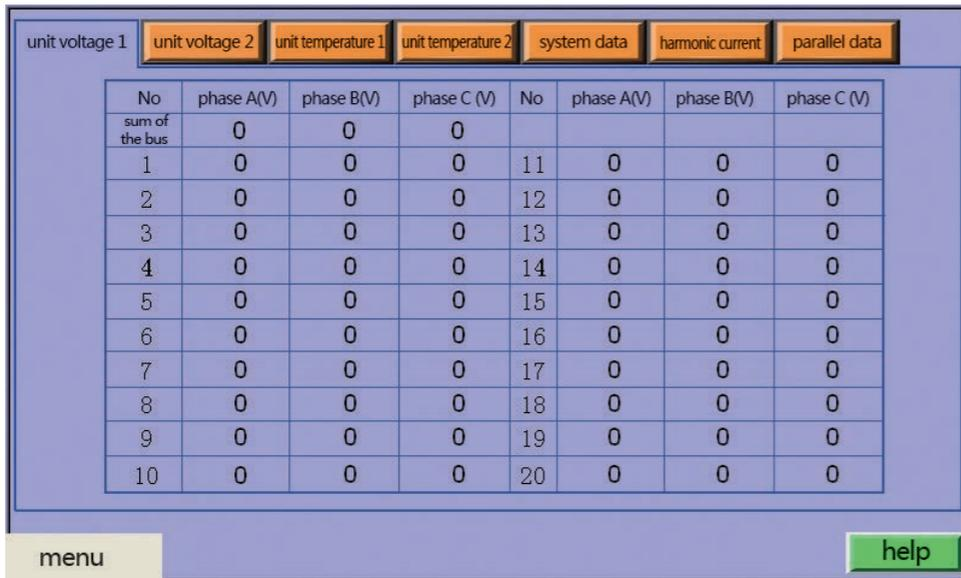
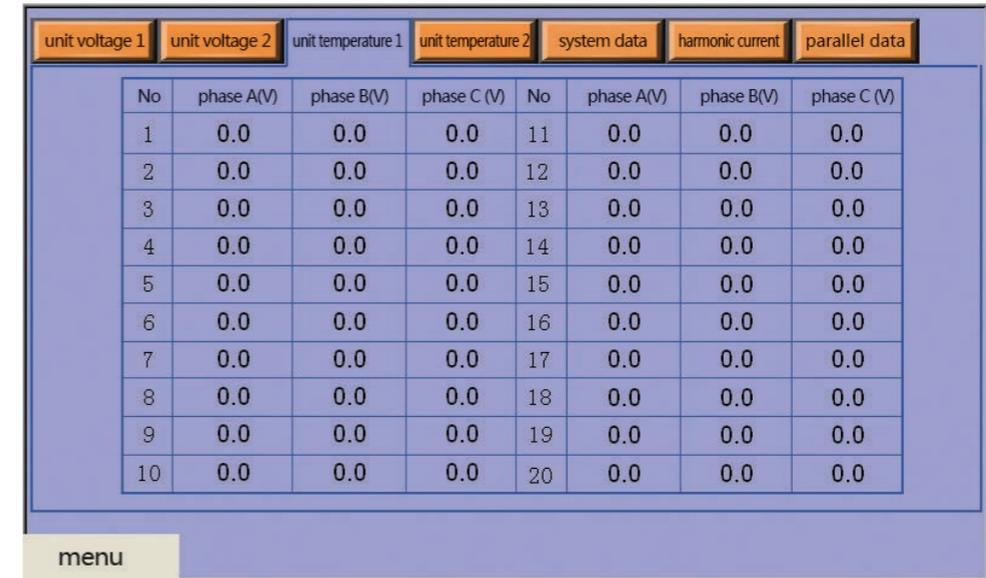

Figure 4.4 Unit Voltage Display Page
Figure 4.5 Unit Temperature Display Page
1) Analog quantity inquiry: Analog quantities such as unit voltage, temperature (customized function), harmonic current, device’s reactive power and parallel data can be searched. Figure 4.4 gives the page on which unit voltage is displayed and Figure 4.5 the page on which unit temperature is displayed.